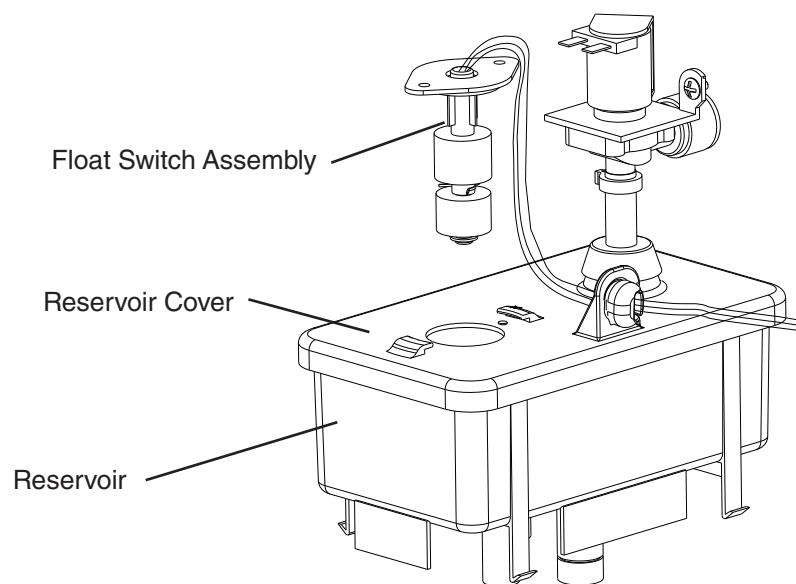

Fig. 5
- 3) Remove FS assembly from the reservoir cover. See Fig. 5.